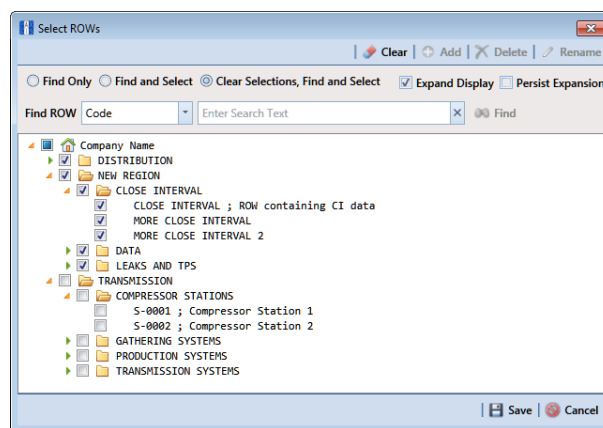

Figure 7-53. Select ROWs
- 1 Select one or more pipeline segments in the *Select ROWs* window (Figure 7-53). Select pipeline segments with facilities you want to work with, then click  **Save** to close the window.